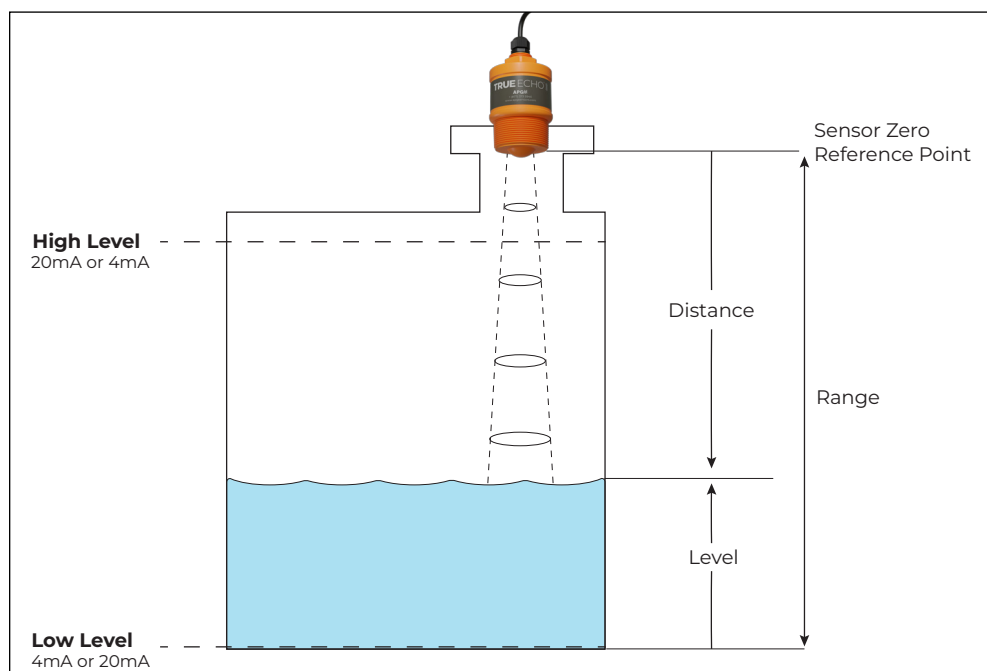

Figure 3.7 High/Low level in a tank
- STEP 3:** Set the Low Level, High Level, and Range settings. The Range setting should be equal to or a little larger than the Low Level setting to optimize performance. See Figure 3.7 on page 8.